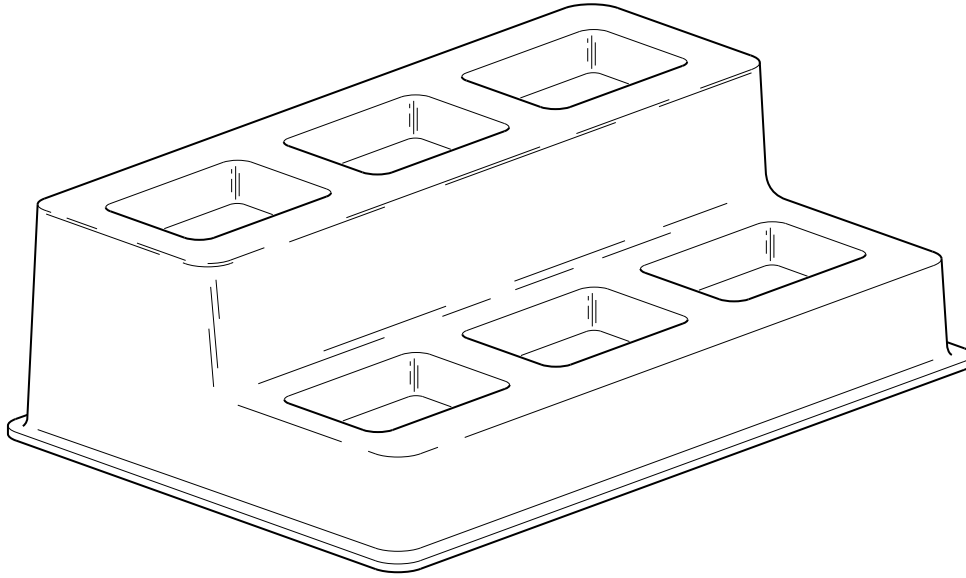

Fig. 6
Fig. 6 shows part of a point-of-sale display for bottles of perfume.
(a) Give **four** justified design requirements for a point-of-sale display of the type shown in Fig. 6.
- (e) (i) State a **suitable specific material** for the point of sale display shown in Fig. 6.